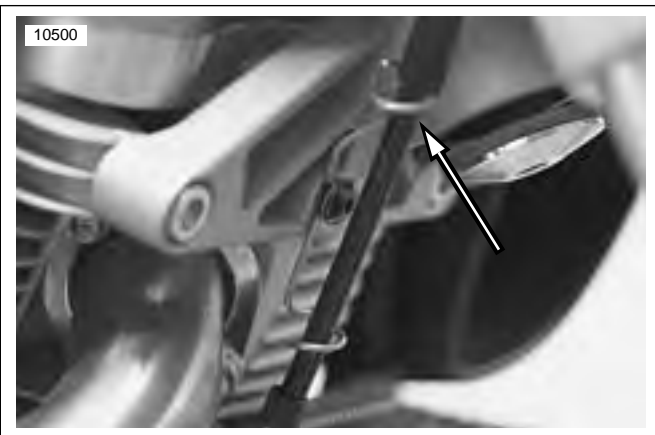

Figure 2-87. Clutch Cable Wire Form
2. See Figure 2-87. Remove clutch cable wire form.
10. Tighten front isolator bolt (6) to 49-51 ft-lbs (66-69 Nm).
11. See Figure 2-87. Install clutch cable wire form. Tighten fastener to 84-92 in-lbs (9.5-10.4 Nm).